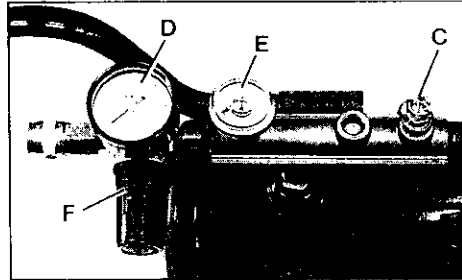

Fig. 1
Safety Valve (C) Fig. 1: If the unloader valve does not release pressure when tank reaches "blow-off" pressure, the safety valve will protect against high pressure by "popping off" at its factory set pressure (slightly higher than the pressure switch blow-off setting).
Outlet Pressure Gauge (D) Fig. 1: The outlet pressure gauge indicates the air pressure available at the outlet side of the regulator. This pressure is controlled by the regulator and is always less than or equal to the tank pressure.
Tank Pressure Gauge (E) Fig. 1: The tank pressure gauge indicates the reserve air pressure in the tank.
Regulator (F) Fig. 1: Controls the air pressure shown on the outlet pressure gauge. Pull the knob out and turn clockwise to increase pressure and counterclockwise to decrease pressure. When the desired pressure is reached push knob in to lock in place.
2. Open the pressure regulator (Refer to Figure 1 for location). Pull regulator knob and rotate clockwise until it stops.